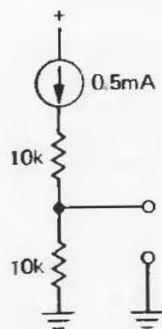

Figure 1.107
(2) Find the Thévenin equivalent for the circuit shown in Figure 1.107. Is it the